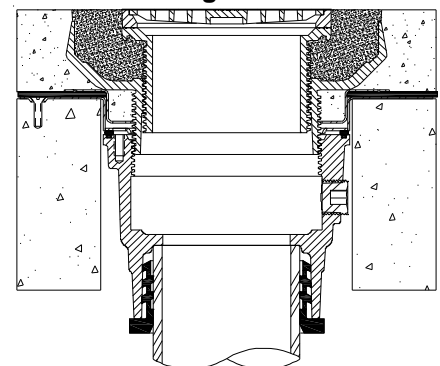

Fig. 14S
14. Turn head assembly clockwise until top of strainer is flush with the finish floor. Wipe away excess silicone. Remove protective label once construction is complete. See Fig. 14S
14. Fill in rough-in adapter with cement or grout. Ensure to completely fill in around entire head assembly flush with finished floor. Remove protective label once construction is complete. See Fig. 14S